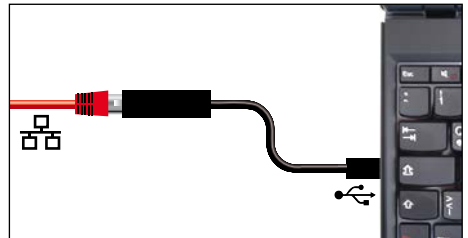

Abb. 8 Converter USB to Ethernet
- ▶ USB to Ethernet converter (Abb. 8). Makes it possible to connect the appliance's network interface (see page 12) to the USB port of a computer / laptop.